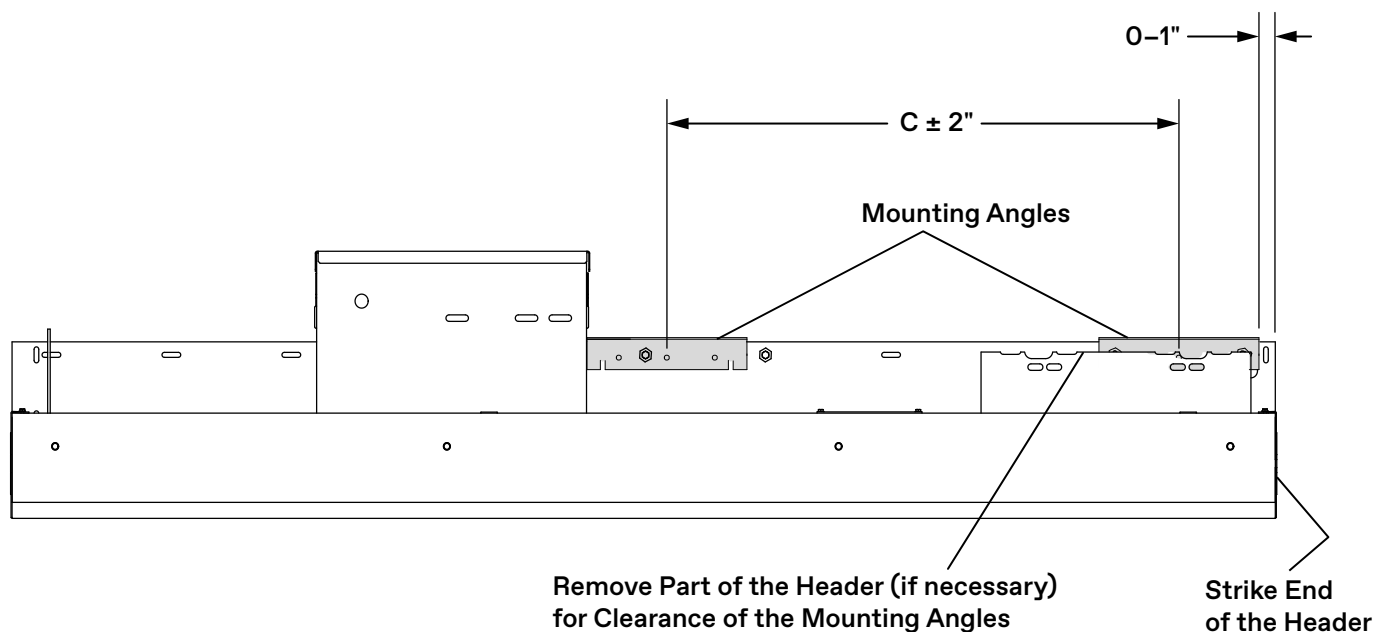

Figure 2 - Modify Header and Install Mounting Angles
5. Remove part of the header (for clearance of the mounting angles) so that it is even with the top of the header. See Figure 2 on page 9.